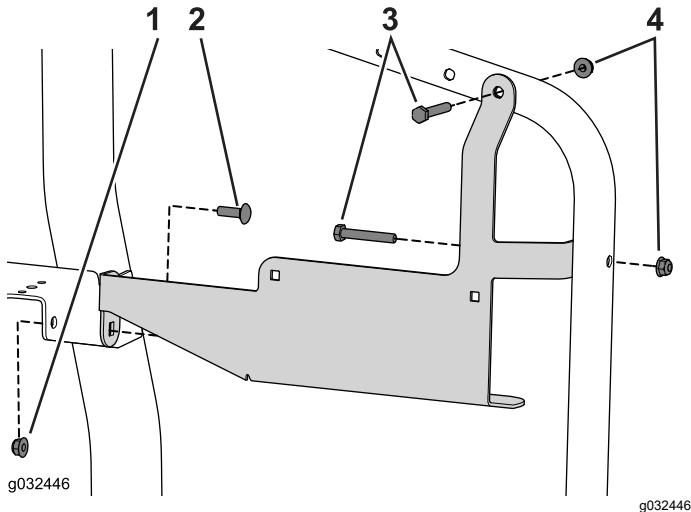

Figure 30
1. Use the 3 carriage bolts (5/16 x 1 inch), (5/16 x 1 inch), and 3 flange nuts to secure the bracket to the frame (Figure 30).